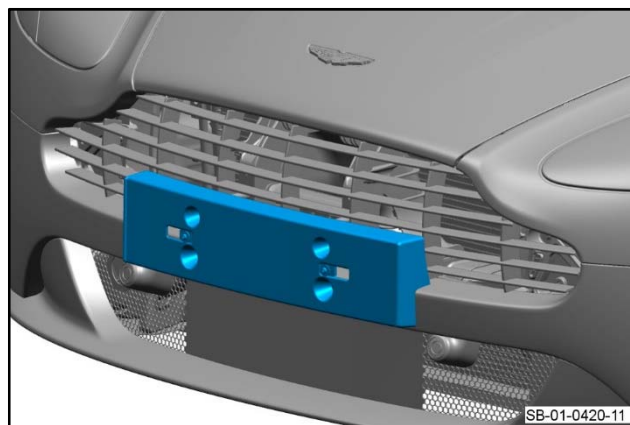

Figure 11
11. Put the license plate plinth into position (refer to Figure 11)